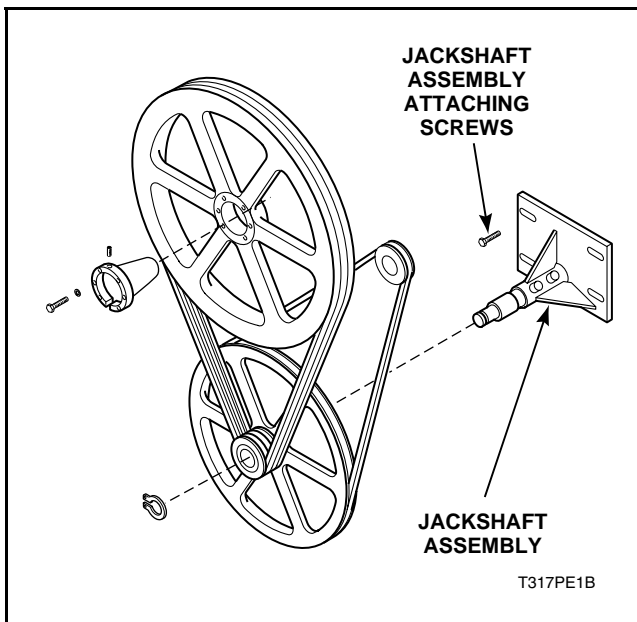

Figure 27
- c. Loosen the four jackshaft assembly attaching screws. Refer to *Figure 27*.